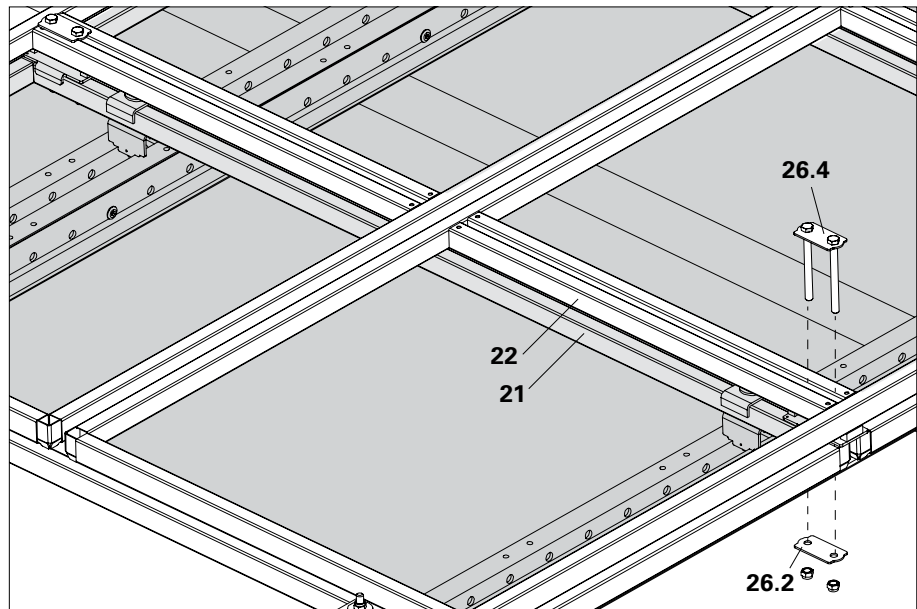

Fig. C1.27
3. Position Telescopic Screen (22).
4. Push screen holder (26.4) through the Telescopic Screen, pressure plate and Screen Element (21), and secure from below with Clamping Plate (26.2) and Nuts. Tightening torque 80 Nm. (Fig. C1.27)